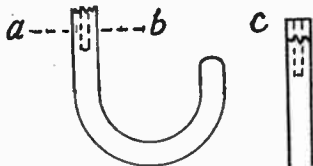

Fig. 1—A broken handle repair
First bore a hole down the middle of the handle portion, as in Fig. 1, making it 1 in. deep or a little more, if necessary. At about  $\frac{1}{2}$  in. down from the break, on line (a-b), saw across the stick with the finest saw you possess. Take the sawn-off piece (C) and glue it to the stick, not the